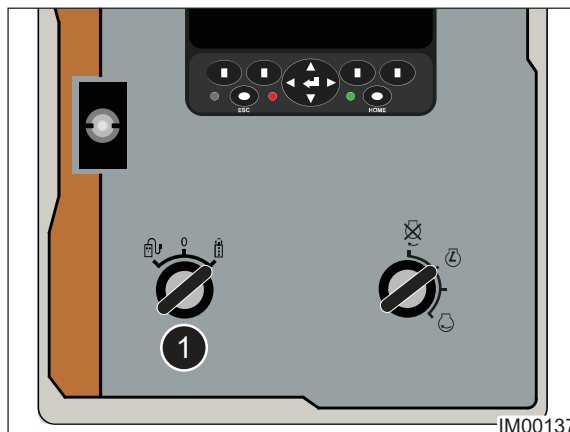

Fig: 6.10 - Track Switch - Radio Remote Position
7. Rotate the handset switch Clockwise to the Radio Remote Handset position (Item 1, Fig: 6.10).
- Rotate the Track Switch (Item 1, Fig: 6.10) to the Off/Neutral position.
(1) Radio Remote Handset - Direction Of Travel